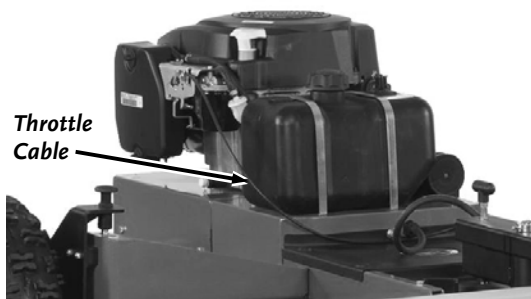

Figure 11
1. Route the Throttle Control Cable from the Tow Bar up to the Throttle Linkage on the right hand side of the Engine (*Figure 11*).